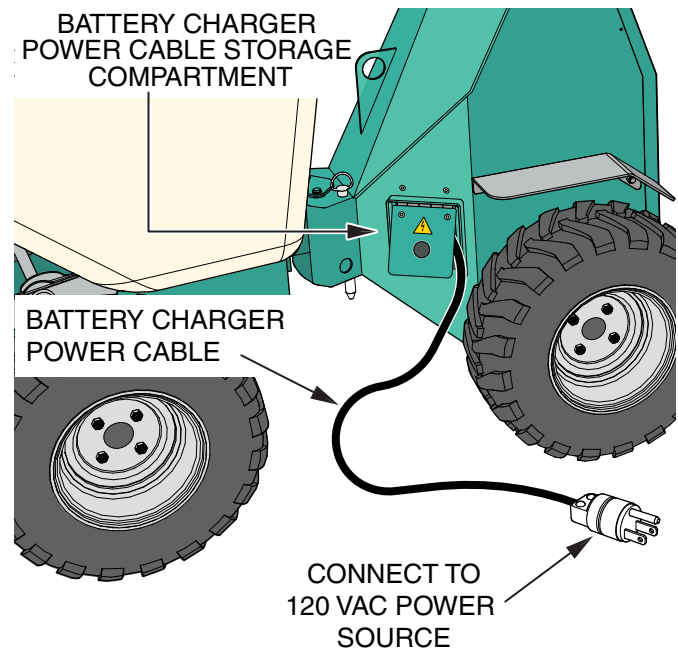

Figure 19. Battery Charger Power Cable
3. Remove the battery charger power cable from the storage compartment as shown in Figure 19.